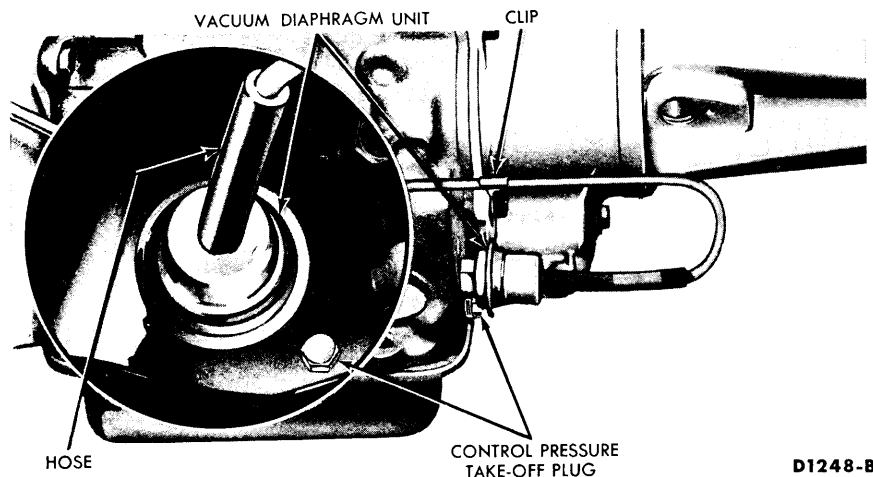

FIG. 4—Vacuum Diaphragm and Control Pressure Connecting Point
When the vacuum diaphragm unit (Fig. 4) is operating properly and the downshift linkage is adjusted properly, all the transmission shifts (automatic and kickdown) should occur within the road speed limits given in Part 7-3.
2. Attach a pressure gauge to the control pressure outlet at the rear of the transmission (Fig. 4).
With the engine idling, disconnect the hose from the diaphragm unit (Fig. 4) and check the engine manifold vacuum. Hold a thumb over the end of the hose and check for vacuum. If the engine speeds up when the hose is disconnected and slows down as the thumb is held against the end of the hose, the vacuum source is satisfactory.